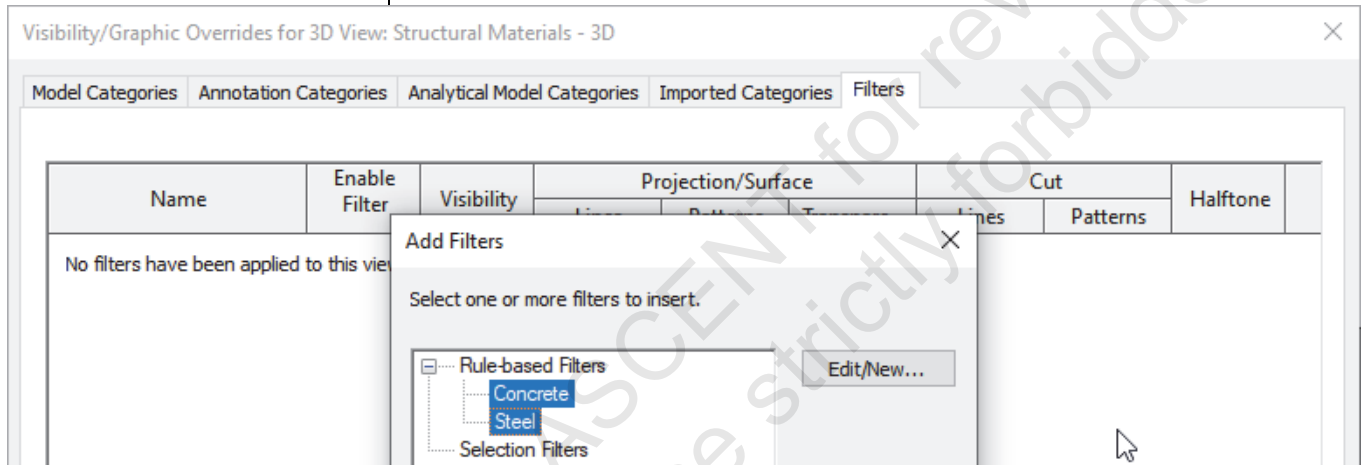

Figure 1–130
4. In the Add Filters dialog box, select both of the filters, as shown in Figure 1–130, and click **OK**.